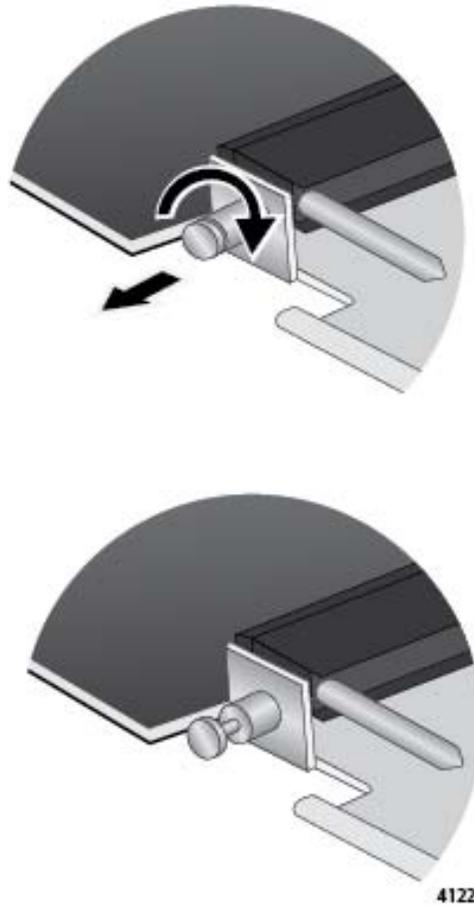

Figure 76. Retracting the Retaining Pin on the AT-SBx81XLEM Line Card
6. With your thumb and forefinger, pull out the retaining pin on the side of the line card and turn it clockwise one quarter turn so that it remains in the retracted position. Refer to Figure 76 on page 141.